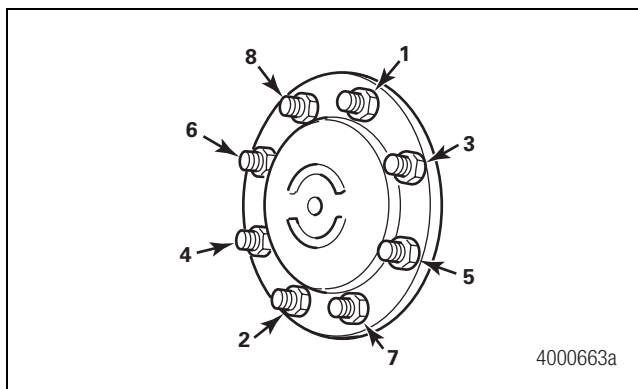

Figure 4.15
4. Install the Grade 8 nuts and hardened washers on the stud. Lock washers are an acceptable alternative. Tighten the stud nuts in sequence shown in Figure 4.15 to the torque specified in Table D in Section 6.